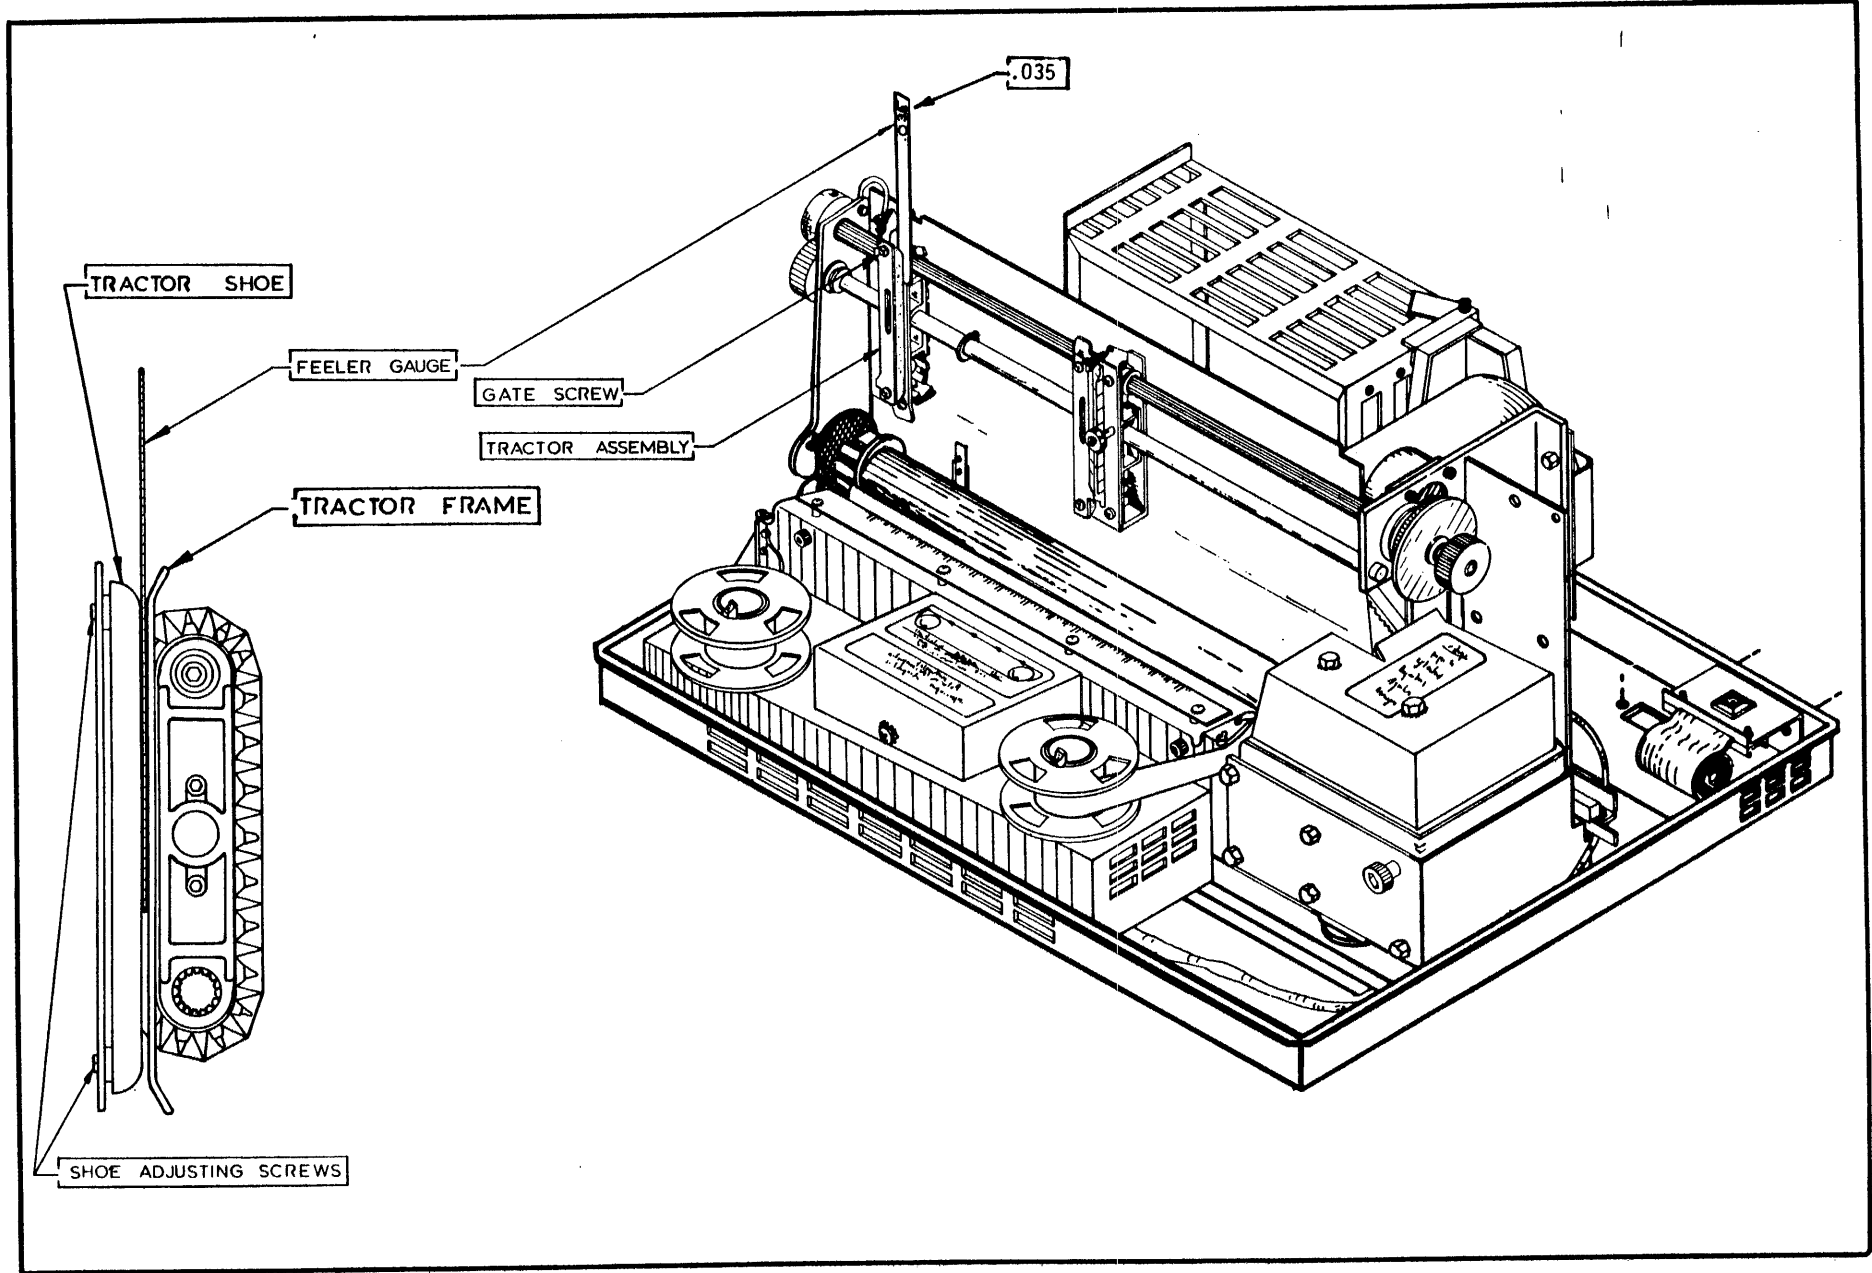

Figure 103 Adjusting the Tractor Shoe
If the gap between the tractor shoe gate and frame is not correctly set, paper may bind in the tractor, especially during high speed slew operations (Figure 103). Check the gap and adjust if necessary, performing the following steps:
- c. Adjust the screw at each end of the tractor shoe (Figure 103), so that the gap is 0.035 inch + 0.005/ - 0.000 inch at both ends of the Tractor Shoe. Adjust the screws clockwise to increase the gap or counterclockwise to decrease the gap.